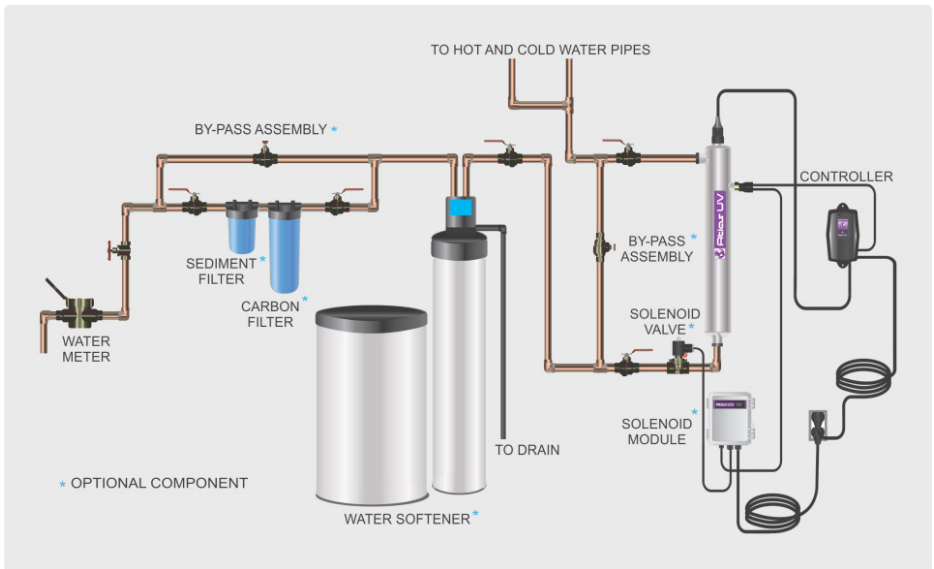

Figure 1. Recommended POE Installation Location
For Point of Entry (POE) systems, choose a location where the main cold water line is accessible. The system must be installed after other water treatment equipment (softener or filters), but before any branches (See Figure 1). For Point of Use (POU) systems, install the unit just before the tap. Atlas recommends that a 20 micron filter be installed **before** the UV system for a final polishing step before the water is disinfected.
Step 10: Mount the controller to the wall so it is above or beside the reactor to ensure that no moisture can deposit on any of the connections (see Figure 1). Always mount the controller vertically. For monitored systems, insert the sensor connector into the IEP port located on the right side of the controller (Figure 6). For the sensor to be recognised by the controller, the controller power must be plugged in last. **Do not plug the controller power cord in before the last step.**